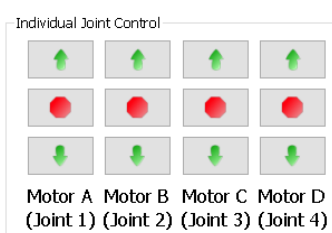

Figure 2.17: Individual Joint Control section
**Individual Joint Control Section** In the “Individual Joint Control” section, there are three sets of buttons as shown in Figure 2.17. Each set of buttons can be used to control the corresponding motor of the connected robot. When the up or down arrows are clicked, the robot begins to move the corresponding motor in either the positive or negative direction. The motor will move continuously until the stop button (located between the up and down arrows) is clicked.